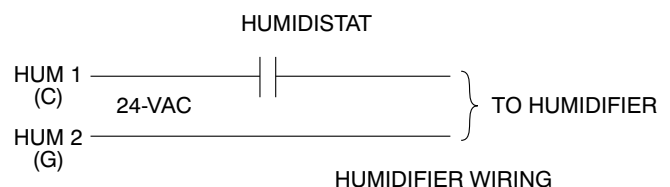
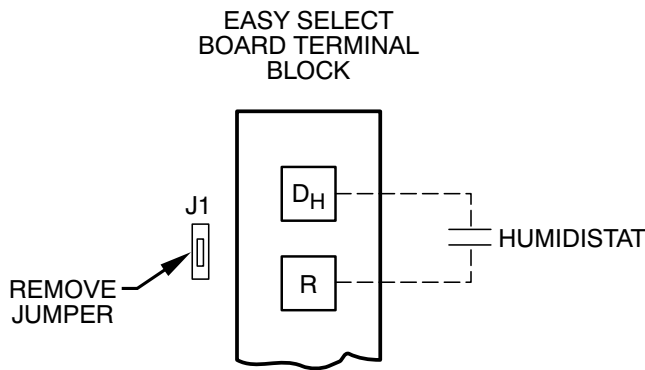

Fig. 19 – Humidifier Wiring
Fig. 20 – Humidistat Wiring for De-Humidify Mode
Easy Select Board terminals HUM1 and HUM2 are provided for direct connection to the low-voltage control of a humidifier through a standard humidistat (see Fig. 19). These terminals are energized with 24VAC when G thermostat signal is present (see Fig. 20). Alternately, the 24VAC signal may be sourced from the W and C terminal block connections when electric heaters are used as primary heating source.
Latent capacities for systems using the Fan Coil are better than average systems. If increased latent capacity is an application requirement, the field wiring terminal block provides connection terminals for use of a standard humidistat. The Fan Coil will detect the humidistat contacts opening on increasing humidity and reduce its airflow to approximately 80% of nominal cooling mode airflow. This reduction will increase the system latent capacity until the humidity falls to a level which causes the humidistat to close its contacts. When the contacts close, the airflow will return to 100% of the selected cooling airflow. To activate this mode, remove Jumper J1 and wire in a standard humidistat (see Fig. 20).
5. Verify low-voltage control signals to motor. The motor receives its control signals through the 12-pin plug (PL-1) on Easy Select Board and 16-pin plug on wiring harness (see Troubleshooting Example). The combinations of pins energized will determine motor speed (see Fig. 20). See Table 8 for circuit board, low-voltage screw terminals energized and for voltage present at each pin on 12-pin plug (PL-1). See Table 8 for pin number on 16-pin plug which should have voltage when Easy Select Board screw terminals have 24VAC.